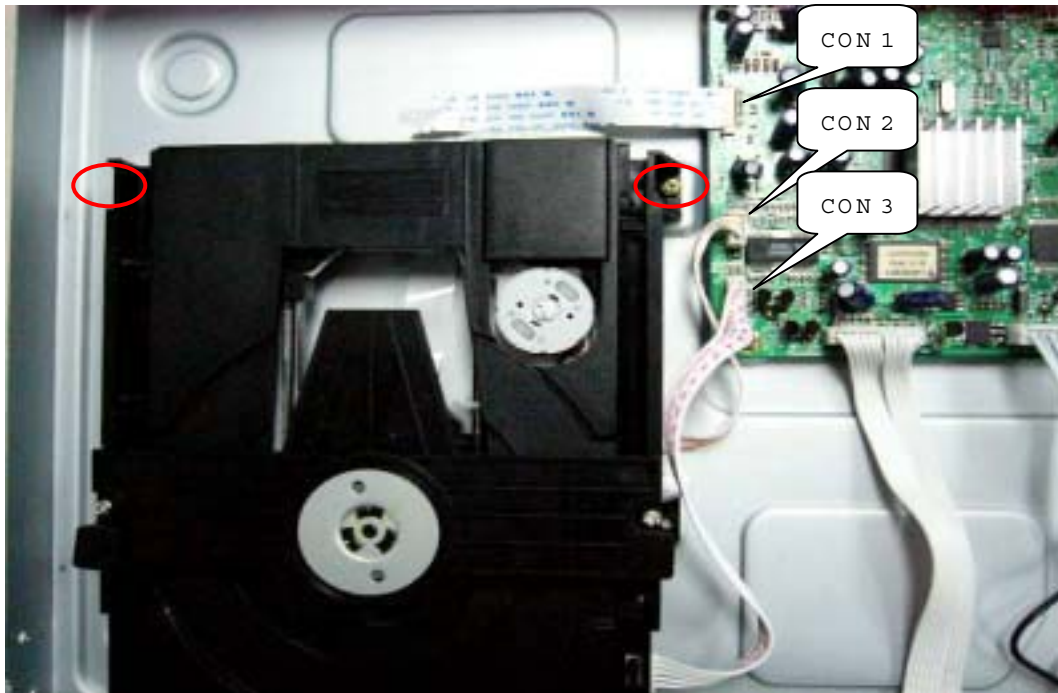

Figure4
Step3:Disassembling Loader; First, disconnect the 3 connectors aiming in the figure, and then remove the 2 screws at both sides of the loader, (Figure 4)